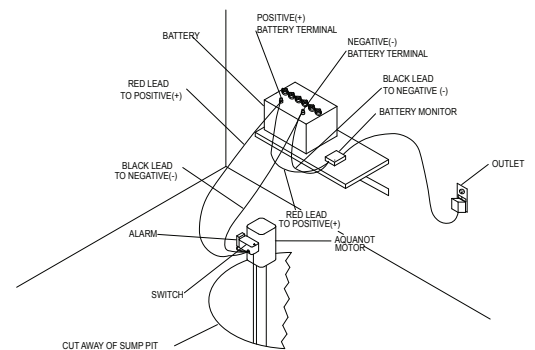

Figure 5.1
5.1) Complete the electrical connections as shown in Figure 5.1.